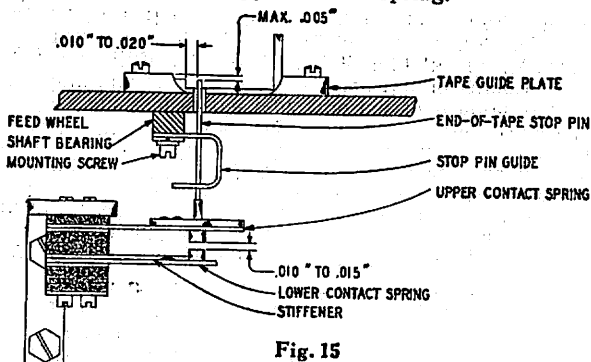

Fig. 15
4.40 On units equipped with end of **tape stop pin** shall clear the shoulder of the tape guide plate by Min. .010", Max. .020", when the side play of the pin is taken up in a direction to make this clearance a minimum. See Fig. 15. On units equipped with a 111627 tape guide plate (having cut-out opposite the tape stop pin) the same limits apply but as measured with a straight-edge laid across the front edge of the guide. The end of the tape stop pin shall enter the hole in the retaining lid without binding when the lid is closed.
4.41 End of **tape stop pin** shall be within  $.005''$  of a straight-edge placed across the top of the tape guide plate. See Fig. 15.